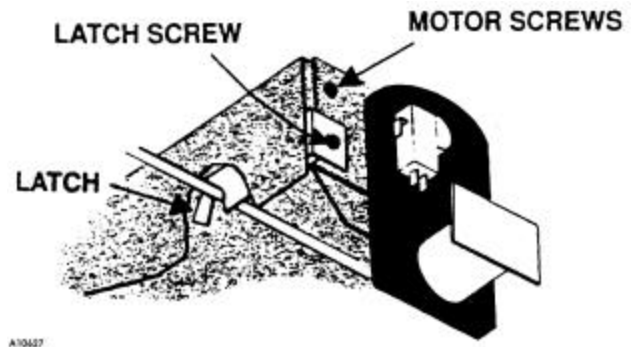

Figure 10
3. Remove the latch screw and latch. See **Figure 10**.
8. To remove the vend motor, remove the two screws on the motor bracket. See **Figure 10**.